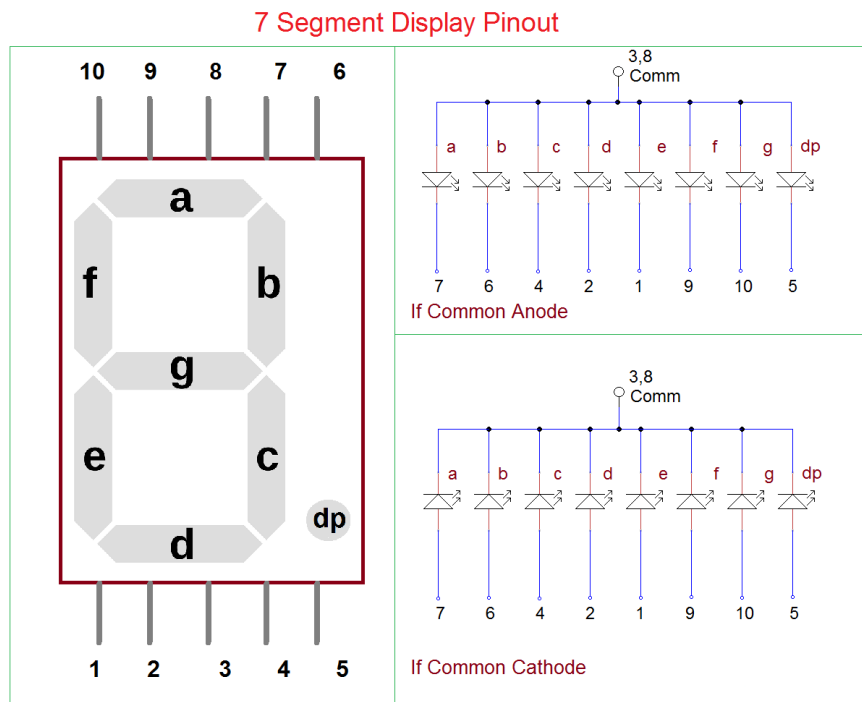

Figure 6: Common Cathode, Common Anode Display
- 3. Seven Segment Display:** Seven segment displays are 10 pin output display device that provides a way to display information in the form of images or text or decimal numbers, which is an alternative to the more complex dot matrix displays. It is widely used in digital clocks, basic calculators, electronic meters, and other electronic devices that displays numerical information. It consists of seven segments of light-emitting diodes (LEDs), which are assembled like numerical 8. According to the type of application, there are two types of configurations of seven-segment displays: **common anode display and common cathode display** as shown in **Figure 6**.